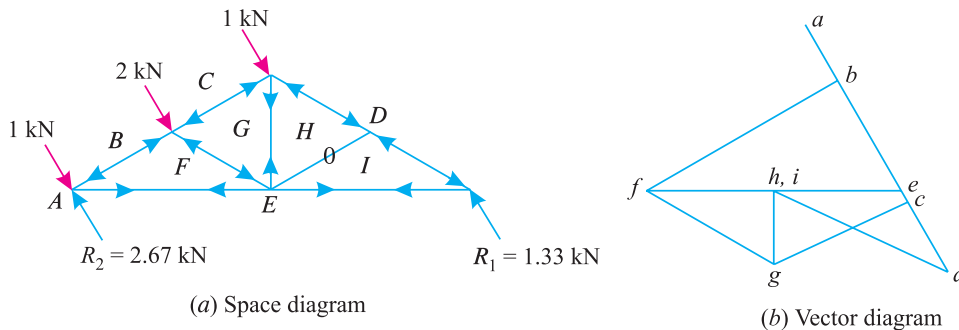

Fig. 14.52.
**Solution.** The reactions may be obtained by any one assumption as mentioned. With the help of first assumption the reactions have been found out as shown in Fig. 14.52 (a).
First of all, draw the space diagram and name the members according to Bow's notations as shown in Fig. 14.52 (a).
Now draw the vector diagram as shown in Fig. 14.52 (b). Measuring the various sides of the vector diagram, the results are tabulated here :